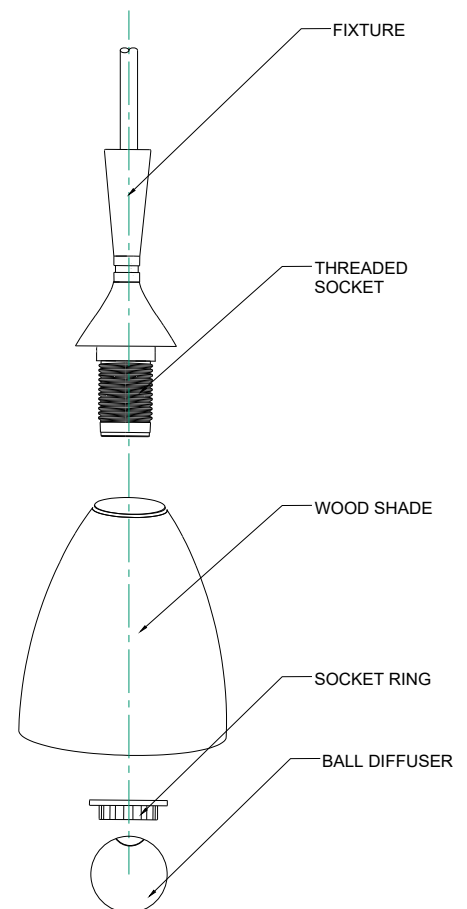

FIGURE-04
- Install the wood shade to the arms, fasten the socket ring to the threaded socket to secure it. Attach the ball diffuser to the socket. (See Figure-04).